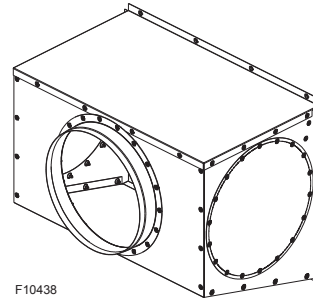

Figure 10. Air Intake Assembly (Sales Order Option D-22)
1. Install the Air Intake Assembly (sales order option D-22) over the combustion air intake port on the back of the unit. See **Figure 10**. Three intake ports are available: left side, right side and rear. Install the air intake collar on the selected port, and use the supplied covers to seal the other two ports. Air filter is accessed for inspection or replacement by removing other side panel (unused side).